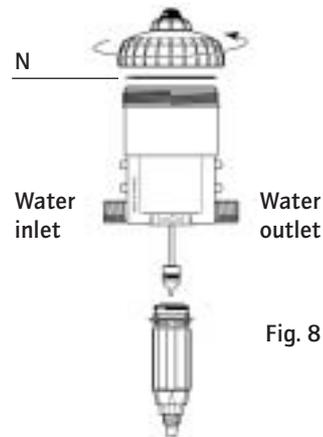

Fig. 8
- The DOSATRON can now be re-assembled, having first cleaned the seal (Fig. 8-N).